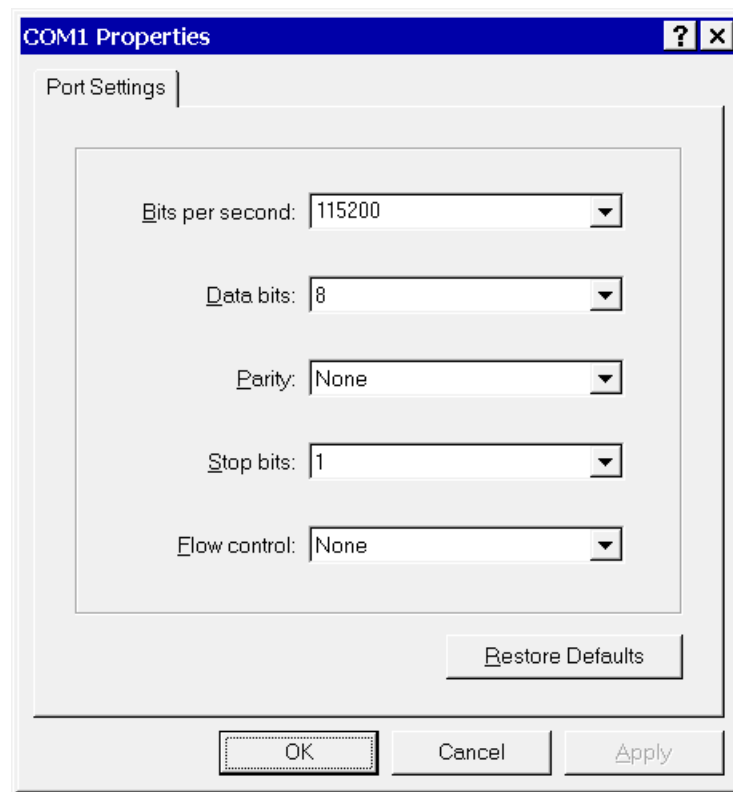

Figure 48: HyperTerminal Settings
- Select 115200 bits per second, 8 data bits, Parity None, 1 Stop bit, Flow control None. (See figure 48)